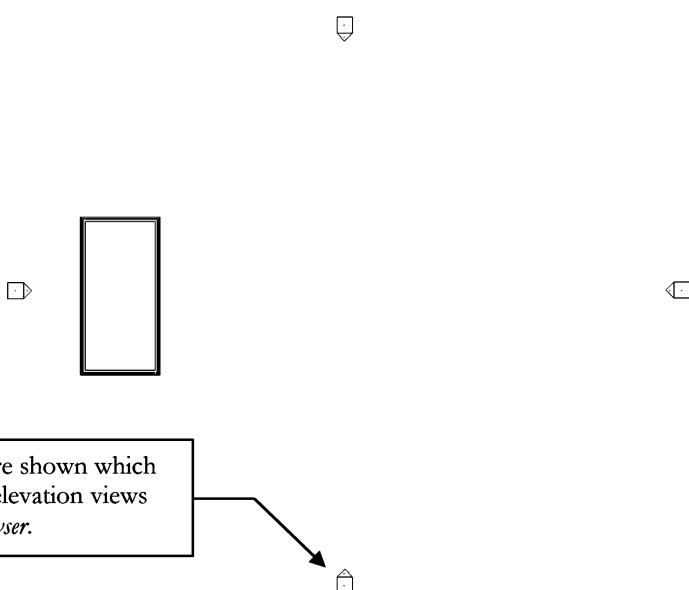

FIGURE 8-1.1 Bldg. and Elev. tags
5. Using the **Wall** tool with the wall *Type* set to "**Exterior - Brick on Mtl. Stud.**" and draw a **40'-0" x 20'-0"** building (Figure 8-1.1).